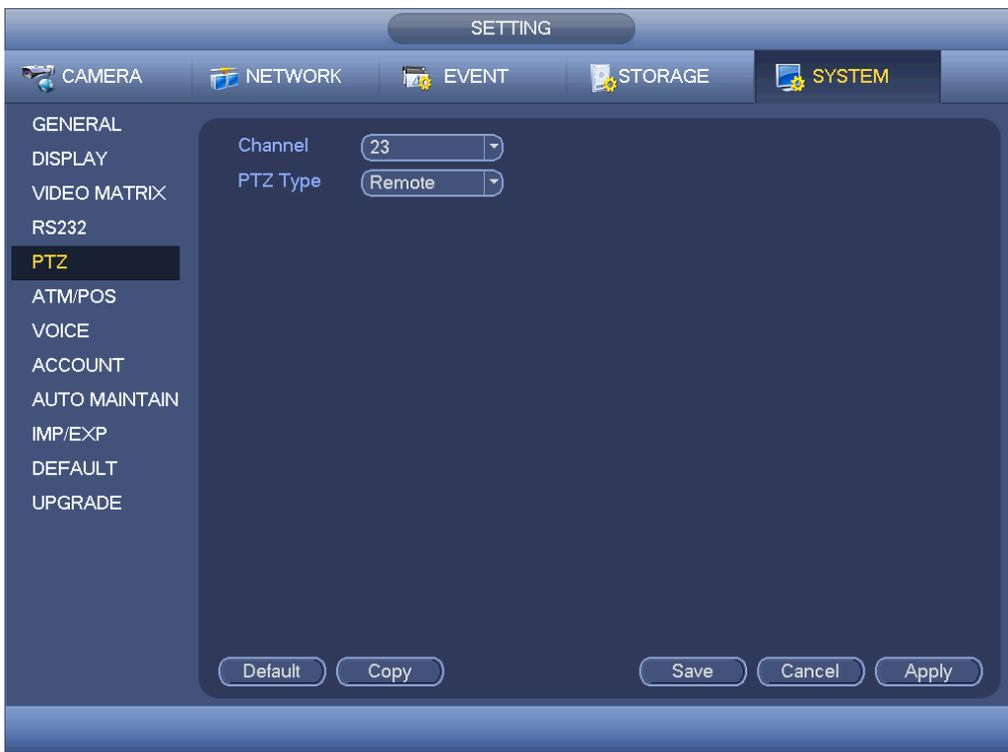

Figure 4-148
- PTZ type: There are two options: local/remote. Please select remote if you are connecting to the network PTZ. See Figure 4-148.